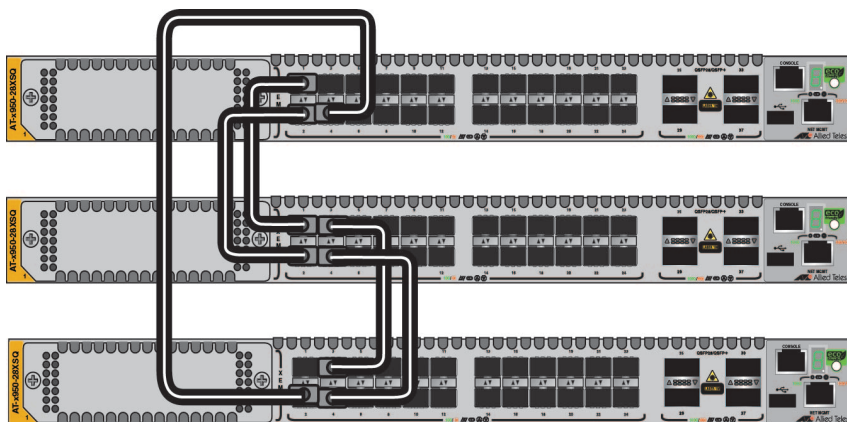

Figure 36. Unsupported Trunk with Different Numbers of Links Between Switches
- ❑ In stacks of three or four switches, the number of links in the trunk has to be the same on all switches. The trunk in Figure 36 is unsupported because the middle switch is connected to the top and bottom switches with two links each, while the top and bottom switches are connected with only one link.